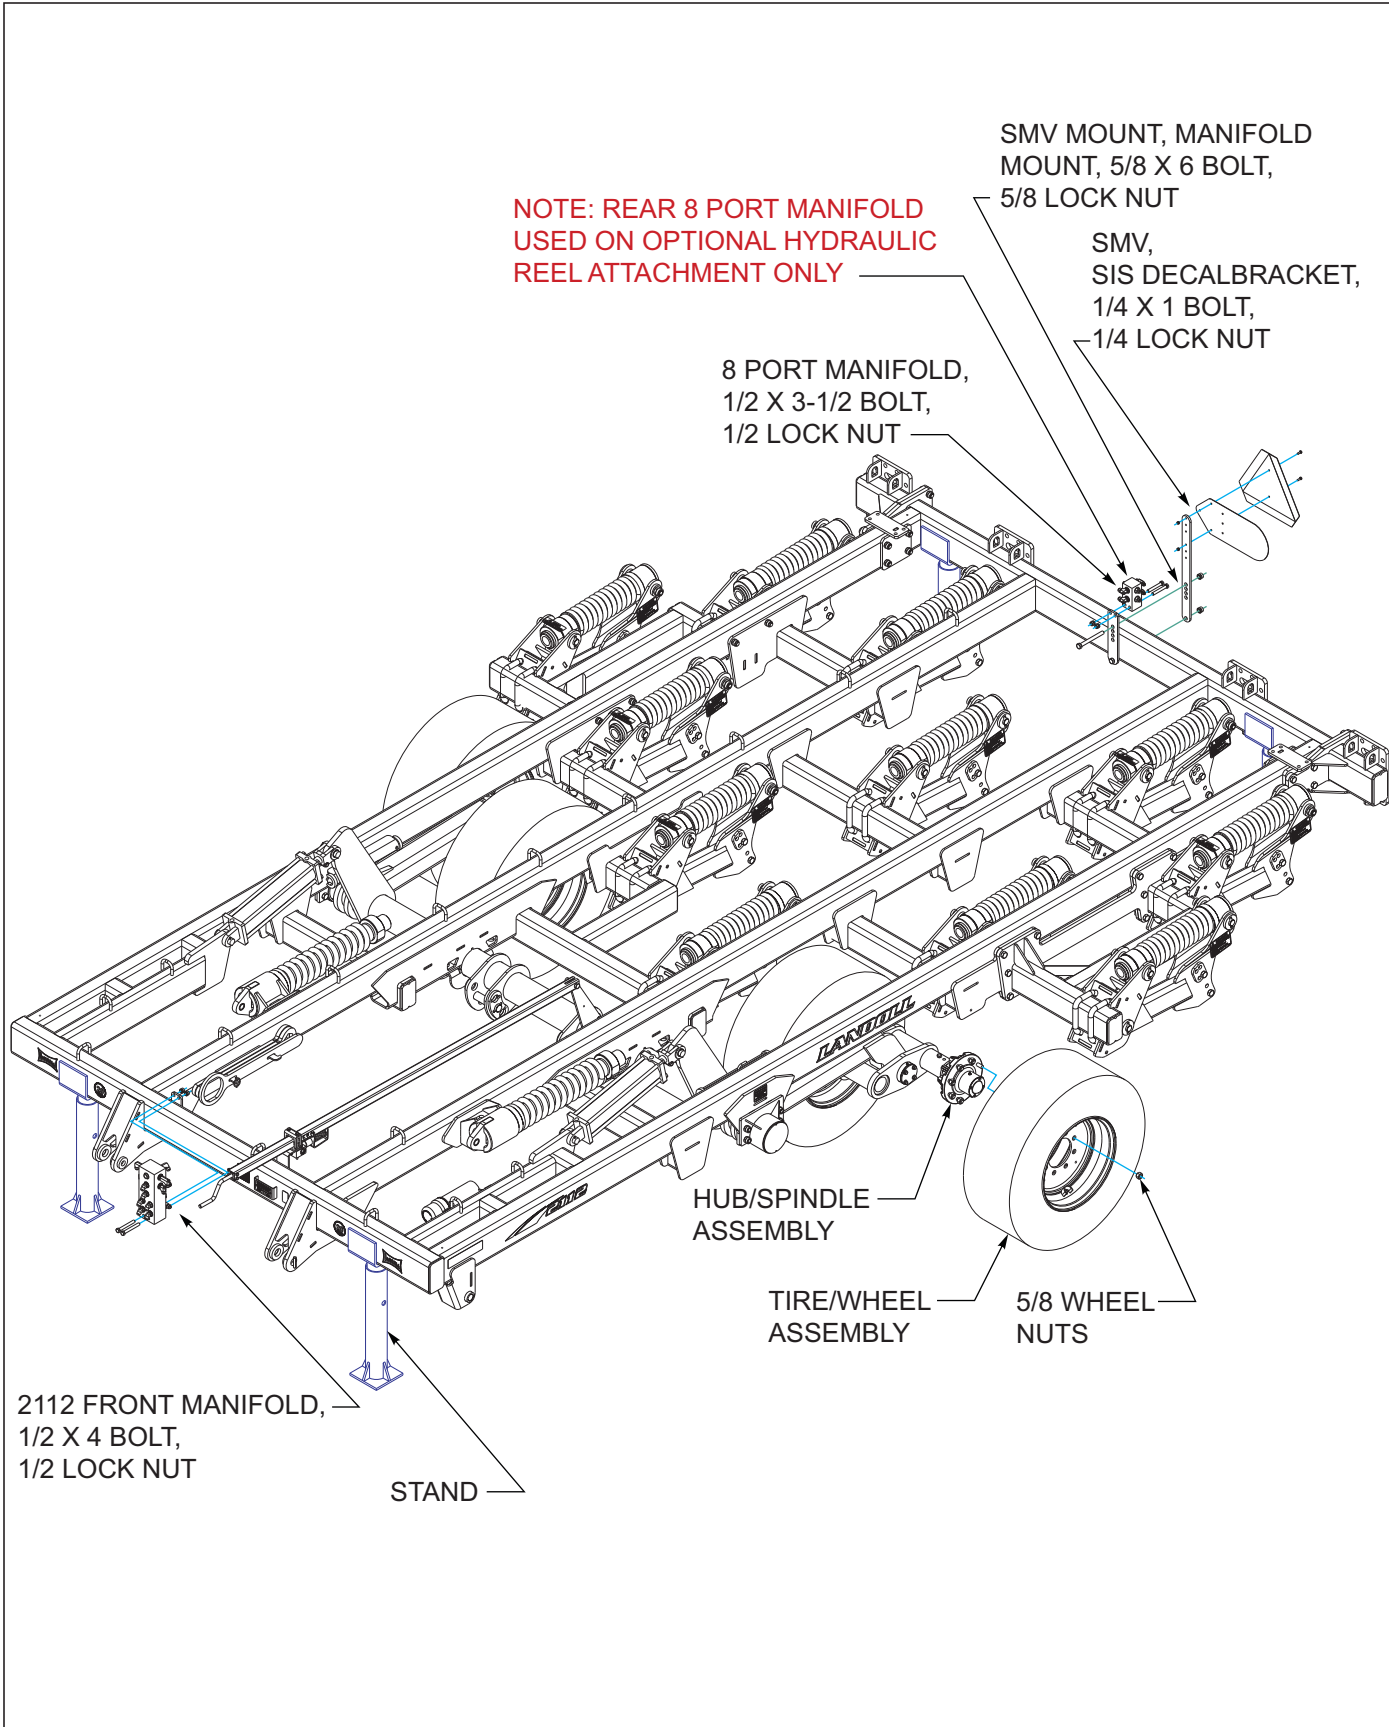

Figure 3-2: Center Frame Assembly 2112-09-11
3. Install the 340/65 R18 tire/wheel assemblies to all hub/spindle assemblies using 5/8 wheel nuts, See Figures 3-2. Torque to 85-100 ft/lbs.